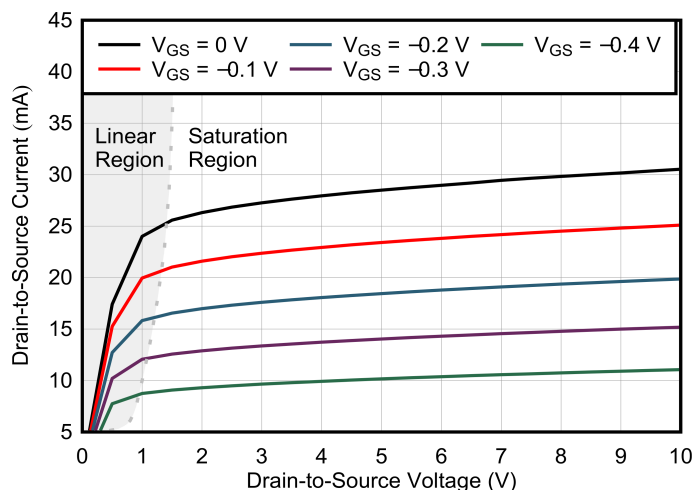

Figure 8-1. V_{DS} vs I_{DS}
- For $V_{GS} > V_{GSC}$: Two modes of operation can exist depending on V_{DS} . When V_{DS} is less than the linear (saturation) region threshold (see Figure 8-1), the device operates in the linear region, meaning that the device behaves as a resistor connected from drain-to-source with minimal variation from any changes in V_{GS} . When V_{DS} is greater than the linear (saturation) region threshold, I_{DS} has a strong dependence on V_{GS} , where the relationship is described by the parameter gm.